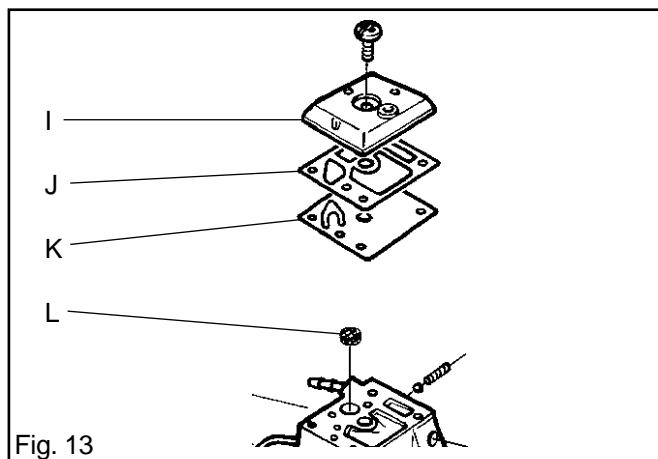

Fig. 13
3. Position the fuel filter (L) with the help of the handle of a small screwdriver. See fig. 13.
4. Fit the pump diaphragm (K), gasket (J) and cover (I) of the pump unit. See fig. 13.